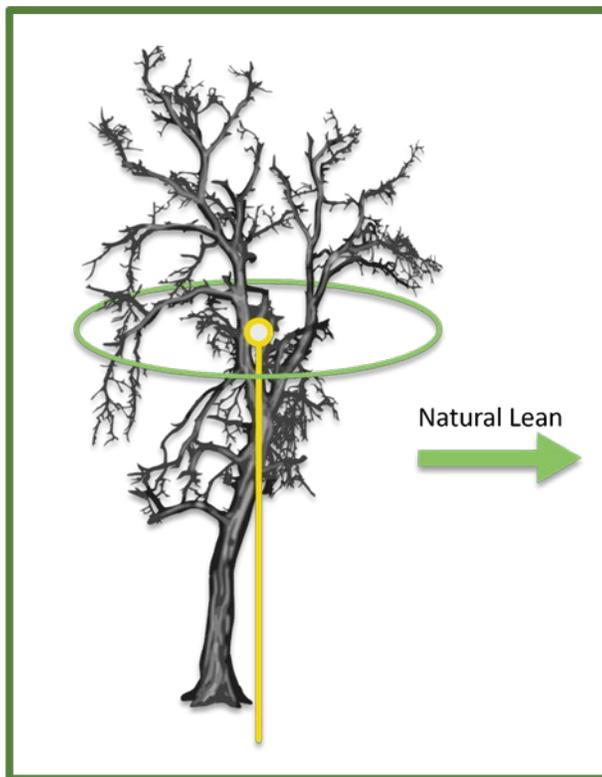

Figure 2.3.13—An example of natural lean.
- **Natural lean** is not relative to an objective; it is the direction that gravity would take a tree if the tree were to fall on its own (figure 2.3.13). It is where the combined mass of the bole, limbs, and foliage is located relative to the center of the base of the tree. Weight distribution higher up in the tree has more influence on the natural lean than weight lower in the tree.